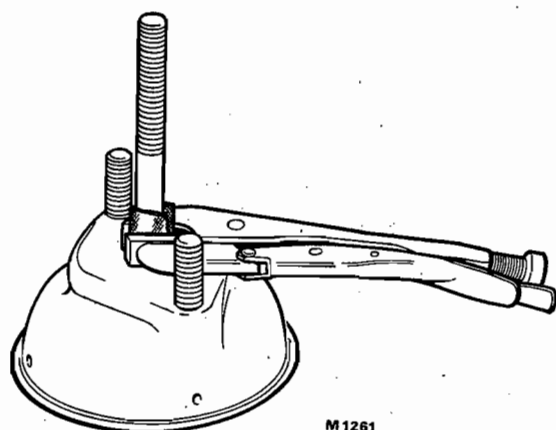

FIG. 3 METHOD OF CLAMPING THE PUSH ROD PRIOR TO REASSEMBLY
3. Pull push rod against the pressure of spring and, taking precautions to avoid damaging the push rod, clamp it lightly at the non-pressure plate with vice-grip pliers, or a similar tool, Fig. 3. This will relieve the tension of the spring on the pressure plate.